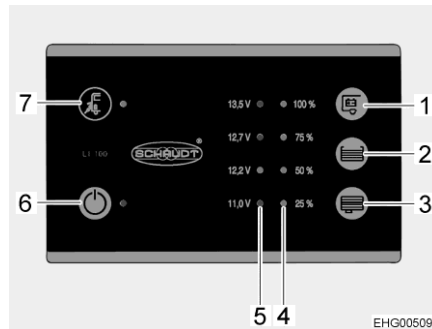

Fig. 67 Panel (LT 100)
The yellow LED at the mains connection symbol "⚡" (Fig. 67,7) is lit when the vehicle is connected to an external mains supply. In this case, the LED will also be lit when the panel is switched off.
The 12 V main switch (Fig. 67,6) switches the panel and the 12 V power supply of the living area on and off.
- Press switch "⏻" (Fig. 67,6): The 12 V living area power supply is switched on. The LED lights up green.
- Press switch "⏻" (Fig. 67,6) again: The 12 V living area power supply is switched off. The LED goes out.
The LED array (Fig. 67,5) displays the battery voltage of the living area battery as follows:
- Press the button " " (Fig. 67,1): The battery voltage of the living area battery is displayed.
The LED array (Fig. 67,4) displays the fill level of the fresh water tank or of the waste water tank.
*Display fill level:* Press the button "☰" (Fig. 67,2): The fill level of the fresh water tank is displayed by lit LEDs.
Press the button "☷" (Fig. 67,3): The fill level of the waste water tank is displayed by lit LEDs.